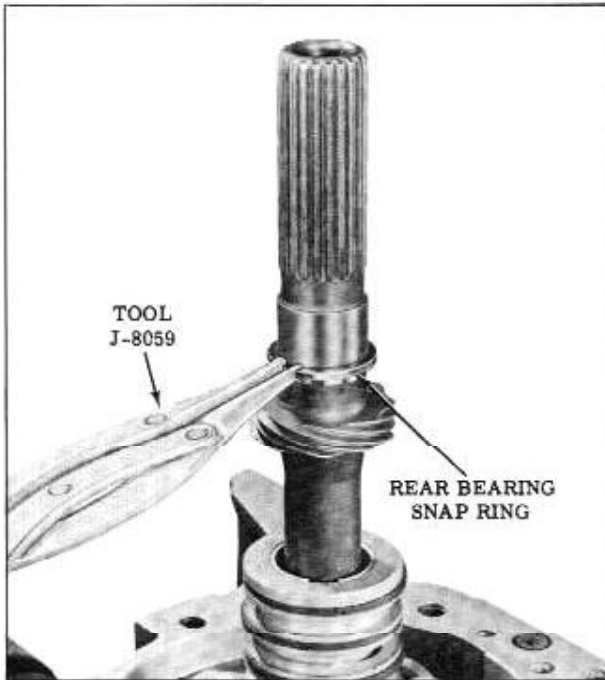

Fig. 3-107 Rear Bearing Snap Ring
28. Install the rear bearing to output shaft snap ring. (Fig. 3-107)